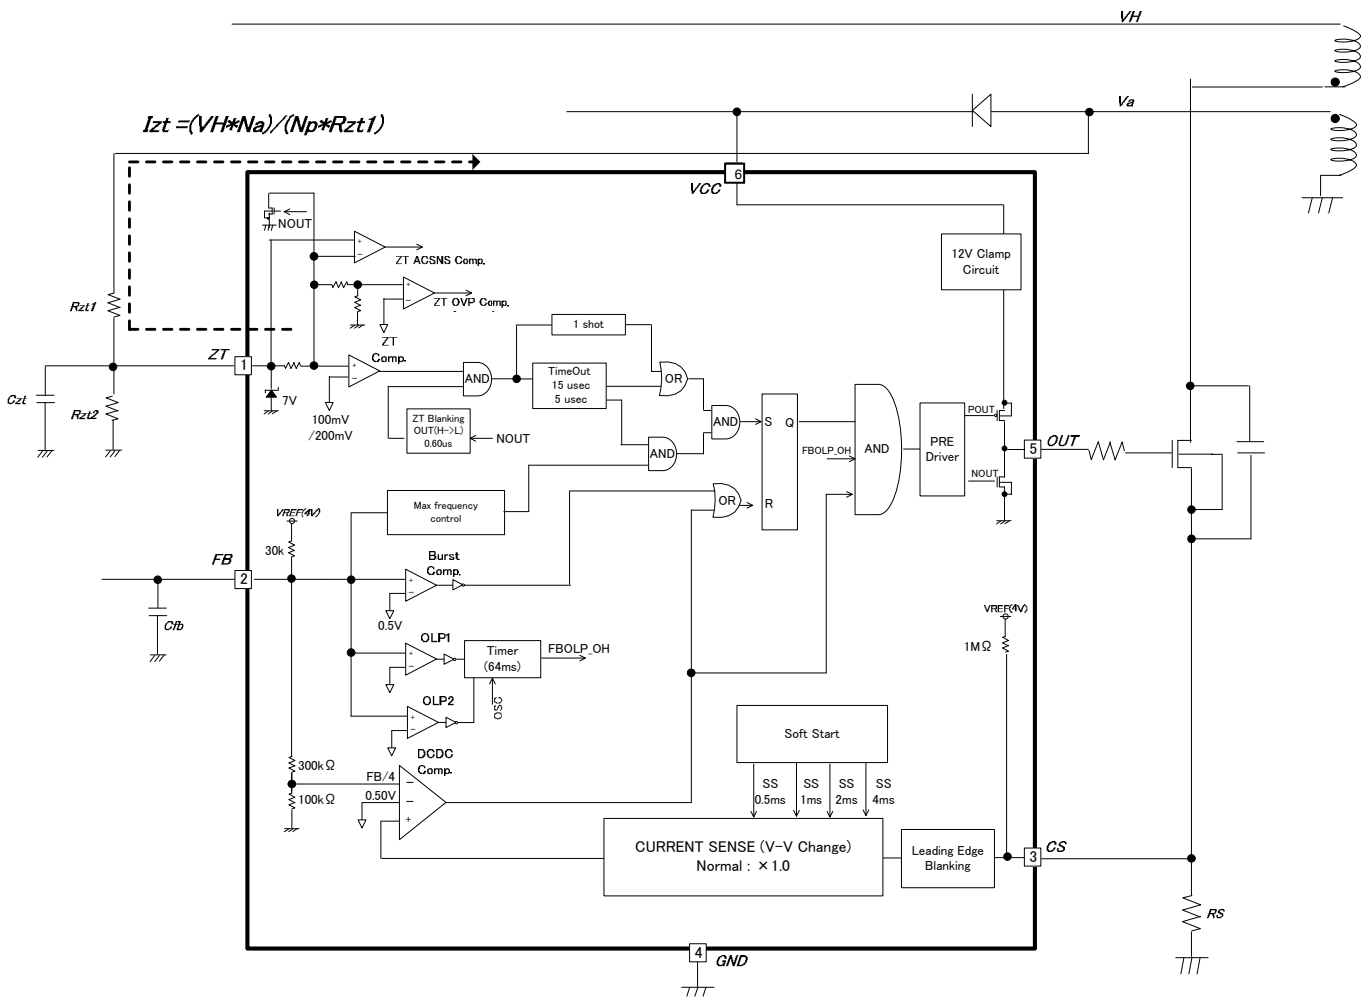
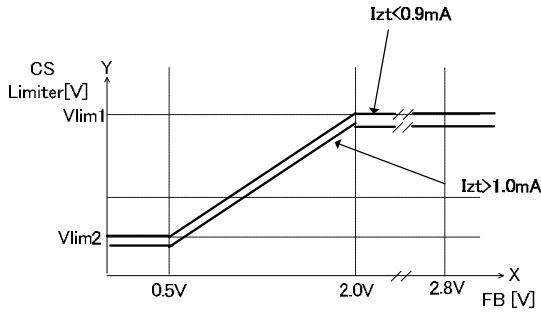
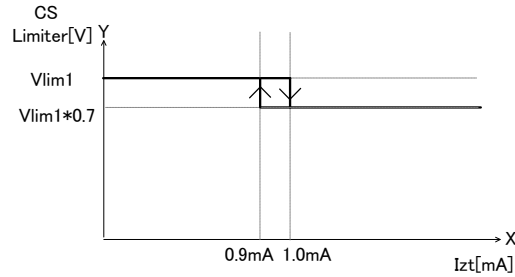

Figure-18 CS Over Current Detection Switched ZT current block diagram
Figure-19 FB pin Voltage vs CS pin Voltage Characteristics
Figure-20 Izt Current vs Switched CS Voltage Characteristics
The detection method is that IC monitors ZT input current, then, IC switches it. When MOSFET turns on, the voltage of “Va” has negative voltage to be affected input voltage (VH). Then, ZT (1pin) voltage is clamped near 0V by IC, ZT pin flows current to bias coil. The calculation is below. And show block figure to Figure-18, show graph to Figure-19, Figure-20.